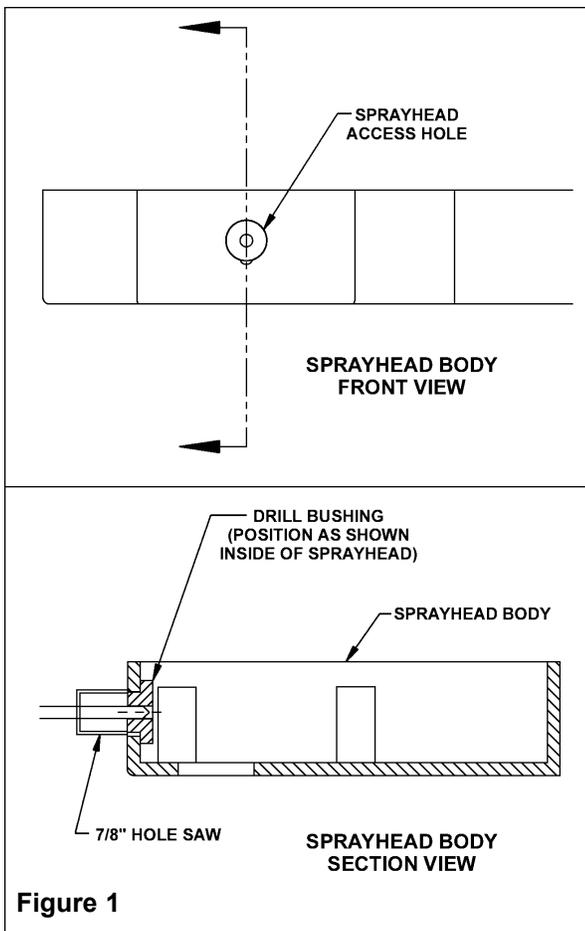

Figure 1
1. Carefully enlarge the three existing 13/16" holes located on the front face of the sprayhead body using a 7/8" hole saw. Use the drill bushing provided to guide the hole saw while drilling (see Figure 1 on page 2).